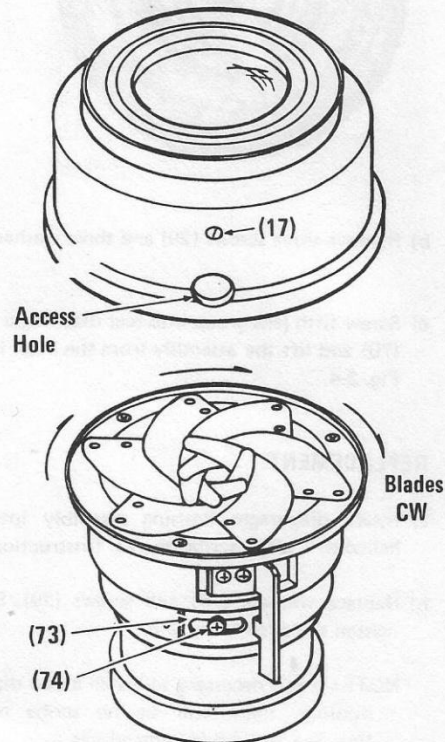

FIG. 3-6
- 3.3** c) Remove three setscrews (28), which clamp rear diaphragm housing into front diaphragm housing.
- d) Screw fifth lens group, or Tool No. 3650557 into rear diaphragm housing. Gently work front diaphragm housing away from rear diaphragm housing. Fig. 3.6.
**NOTE:** This procedure is applicable only to old style diaphragm housings held together by setscrews (28). New style diaphragm housings are screwed together. Center lens as described in Paragraph 6.7.
- a) Install diaphragm blades in a clockwise sequence. Fig. 3-6.
- c) Align blade ring limit stop access hole in front diaphragm housing with head of aperture limit plate stop screw (50); install front diaphragm housing over rear diaphragm housing, seating it firmly. Fig. 3-6.
- d) Holding parts firmly together, install the three setscrews (17) in front diaphragm housing. Thread the setscrews into the housing until they just make contact with the rear diaphragm housing.
- g) Thread Tool No. 3650557 into rear diaphragm housing; hold diaphragm lever against limit stop and measure the aperture size. At f/16, the diaphragm blades should just touch the pin of the tool. (Diameter of the opening is  $3.5 \pm 0.2\text{mm}$ .) Fig. 3.7. Adjust the aperture size by shifting the position of limit stop plate (49). Fig. 3-6.